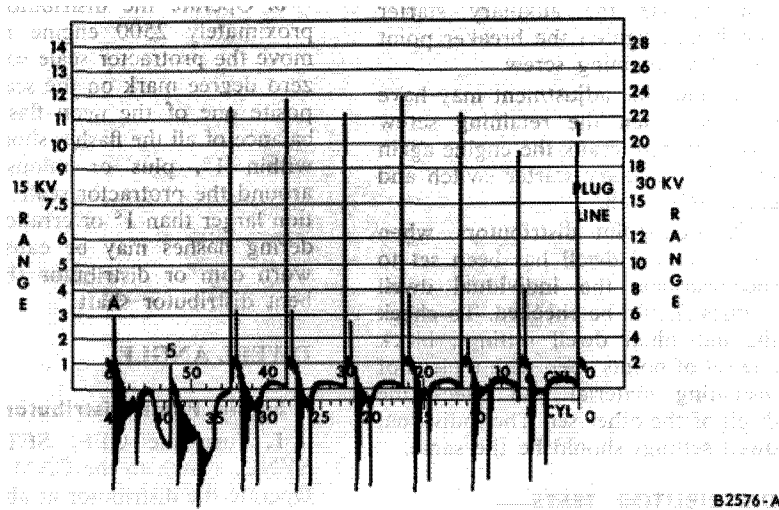

FIG. 13—Typical Dynamic Compression Pattern—All Except No. 1 Cylinder
5. The pattern indication as shown at 5 in Fig. 13 will appear at point A.
7. When the pattern indication passes through the firing pattern for cylinder number 5, the plug firing line will disappear (Fig. 13) and the engine will miss on the number 5 cylinder.